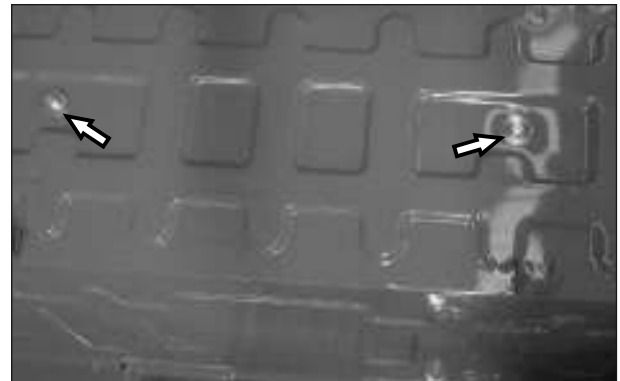

Fig. 5.91
- Loosen and remove 2 nos. Hexagonal screw (M8 x 1.25 x 25) from cabin mounting. (Fig. 5.91)